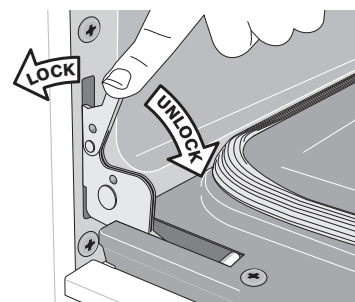

Figure 31: Door hinge locks
2. Pull the door hinge locks on both left and right door hinges down from the oven frame completely toward the oven door (Figure 31). A tool such as a small flat-blade screw-driver may be required.
4. Push the door hinge locks up toward and into the oven frame on both left and right oven door hinges to the locked position (Figure 31).